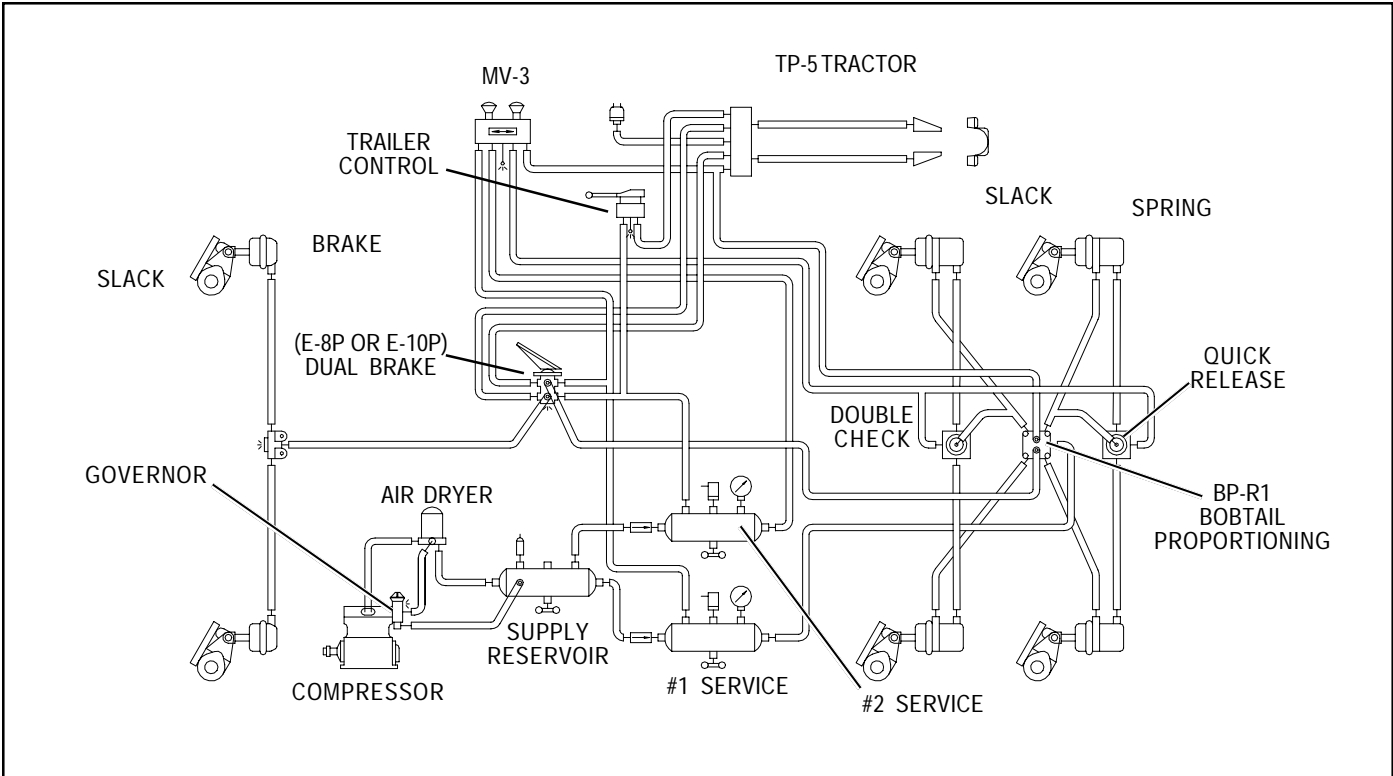

FIGURE 3 - TYPICAL PIPING SCHEMATIC
F. Sticking unloader pistons.	F. Check the operation of the unloading mechanism. Check for proper operation of the compressor air governor. Make certain the air connections between the governor and compressor are correct. Refer to figure 3. If the governor is operating properly, replace the unloader mechanism. Inspect for bent, linked or blocked tubing leading to or from the governor.
OPERATION - Refer to Figure 3
2. Remove the screw (9) securing the exhaust diaphragm (10) and washer (11) to the exhaust cover (12).
3. Remove the four screws that secure the exhaust cover (12) to the lower body.
4. Remove the secondary inlet and exhaust valve assembly (13) from the lower body.
6. Remove the rubber seal ring (14) from the lower body.
7. **For E-8P only:** While applying thumb pressure to the primary piston (22), lift out and up on the three lock tabs of the primary piston retainer (15).
8. **For E-10P only:** While depressing spring seat (7), remove retaining ring (8). Remove spring seat (7) and coil spring (5).
Caution: Before proceeding with the disassembly, refer to Figures 3 and 4 and note that the lock nut (16) and stem (17) are used to contain the primary piston return spring (**for E-8P:** 23, **for E-10P:** 6), stem spring (19), and the relay piston spring (21). The combined force of these springs is approximately 50 pounds and care must be taken when removing the lock nut as the spring forces will be released. It is recommended that the primary piston and relay piston be manually or mechanically contained while the nut and stem are being removed.
9. Using a 3/8" wrench, hold the lock nut (16) on the threaded end of the stem (17). Insert a screwdriver to restrain the stem, remove the lock nut (16), spring seat, (18) and stem spring (19).
10. **For E-10P only:** Remove adapter (1) and o-ring (4). Remove the primary piston (2) from adapter (1) and o-ring (34) from the primary piston (2).